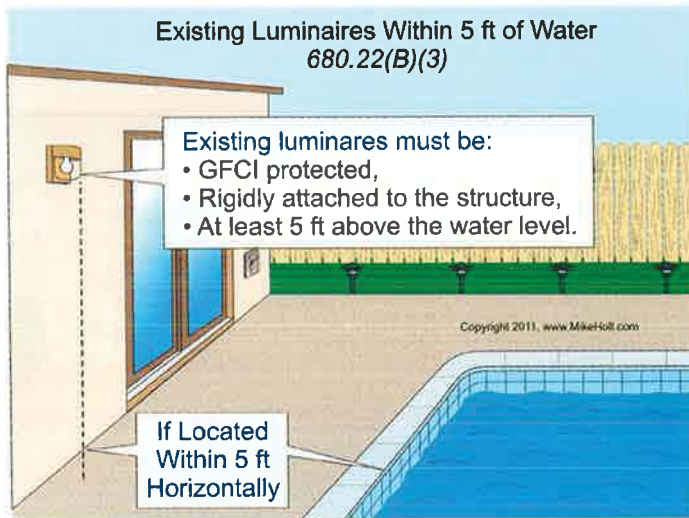

Figure 680-18
(1) New Outdoor Installations. Luminaires and ceiling fans installed above the water, or the area extending within 5 ft horizontally from the inside walls of a permanently installed pool, outdoor spa, or outdoor hot tub, must not be less than 12 ft above the maximum water level.
(3) Existing Installations. Existing luminaires located less than 5 ft horizontally from the inside walls of a permanently installed pool, outdoor spa, or outdoor hot tub must be not less than 5 ft above the surface of the maximum water level and must be GFCI protected. **Figure 680-18**
(4) Adjacent Areas. New luminaires installed between 5 ft and 10 ft horizontally, and not more than 5 ft above the maximum water level of a permanently installed pool, outdoor spa, or outdoor hot tub must be GFCI protected.